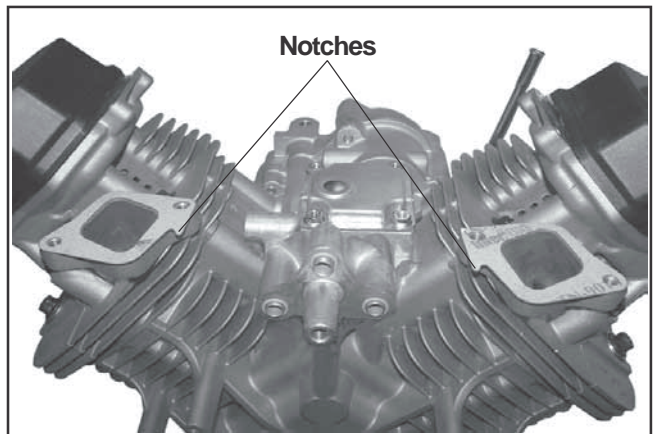

Figure 10-61. Installed Intake Manifold Gaskets.
1. Install new intake manifold gaskets so the notched section is inward and points toward the flywheel side. See Figure 10-61.